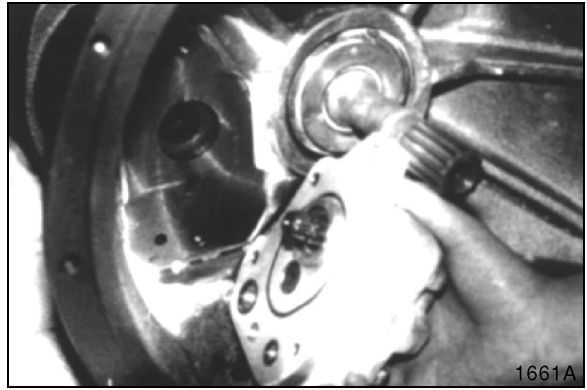

Figure 68
5. Remove pilot pump. See Figure 68.